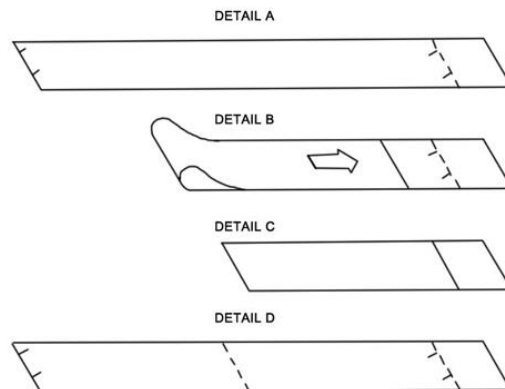

Figure 2.5
2. Mark the intersection of the two ends of the paper to indicate the circumference. Remove the template and spread it out on a flat surface. Fold the template in half, bisecting the circumference. See **Figure 2.5**.